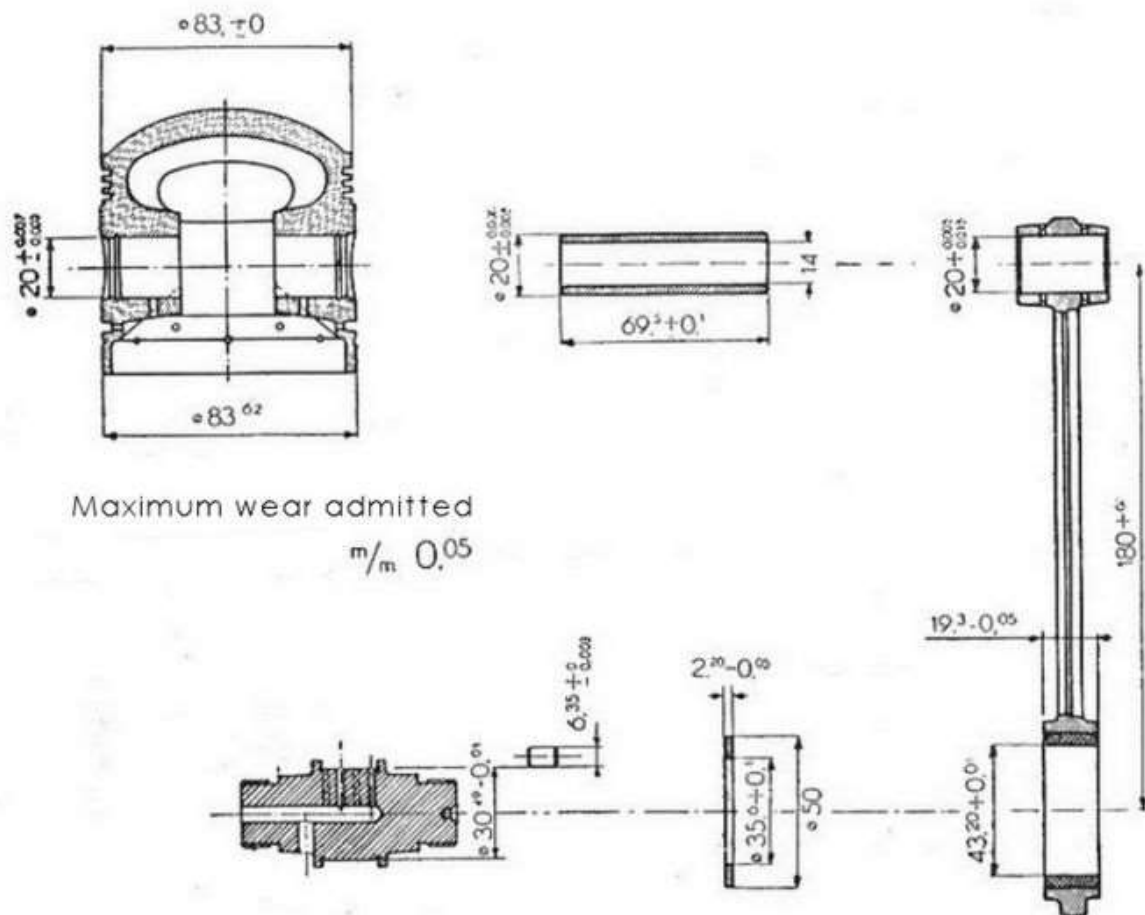

Fig. 13
trueness, this must not exceed the value of **0.03 - 0.04** in relation to the dimension indicated in fig. 13.
**a)** Carefully examine them one by one after washing them with clean gas. The rolling surface must be without traces of seizing or overheating; **b)** check the diameter of the rollers with a micrometer; the amount of wear must not exceed the value of mm. 0.03 in relation to the normal diameter indicated in fig. 13.
**a)** Examine the internal surface of the connecting rod end where the rollers work; it must be very smooth without traces of seizing or heating. Same for the inner surface of the foot; **b)** check the use and trueness of the surfaces mentioned above as shown in fig. 13.
respective places; **c)** check the diameters of the piston with a micrometer; **the wear must not exceed mm. 0.05** (see Fig. 13).
Examine the surface, it must be very smooth and not show scratches or out-of-round; otherwise replace the pin. The coupling of the pin with the connecting rod must result with **a maximum play of mm. 0.03** (fig 13.)